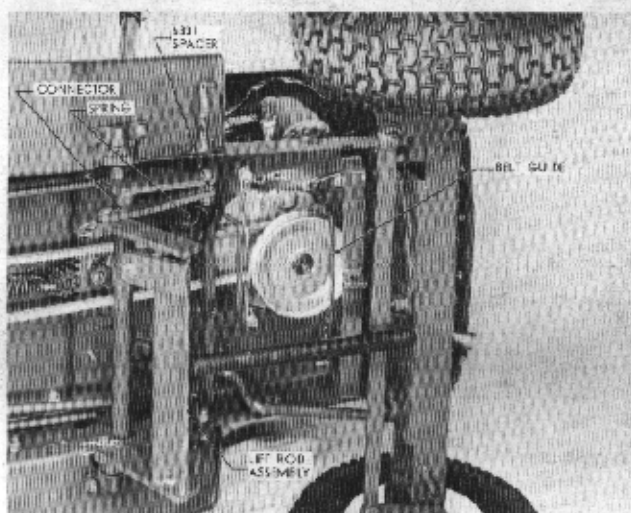

FIGURE 3
3. Mount the belt guide to the tractor as shown in figure 3, using the existing bolts and washers to secure it in place.
To install the lift rod assembly, hook the connectors on the lift arm cross shaft (figure 3), and bolt the connectors to the tractor lift arms. **Note:** A spacer #6331 is used between the connectors and the tractor lift arms as shown.